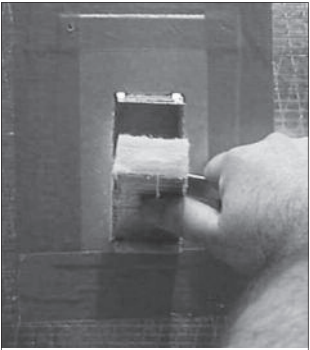

Figure 8
- Remove the cut piece of duct (Figure 8).